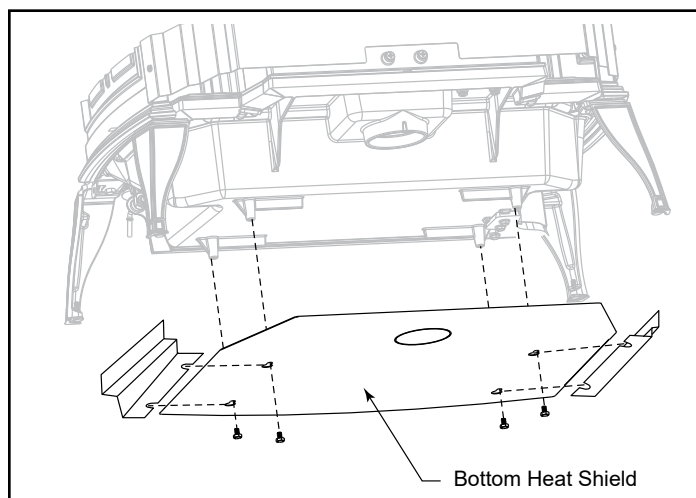

Figure 5.4 - Attach the bottom heat shield.
2. Align the bottom heat shield key holes to the four hex bolts previously installed into base, Figure 5.4. The outside air cutout hole should be toward the rear of the stove.
3. Attach the heat shield sides by passing the slots over the bolt heads. Tighten the hex head bolts, Figure 5.4.